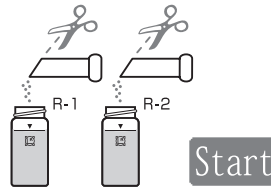

Fig.7
6. Add R-1 and R-2 Reagent of LR- NO₃ into the cell and press <Start>. (Fig.7)